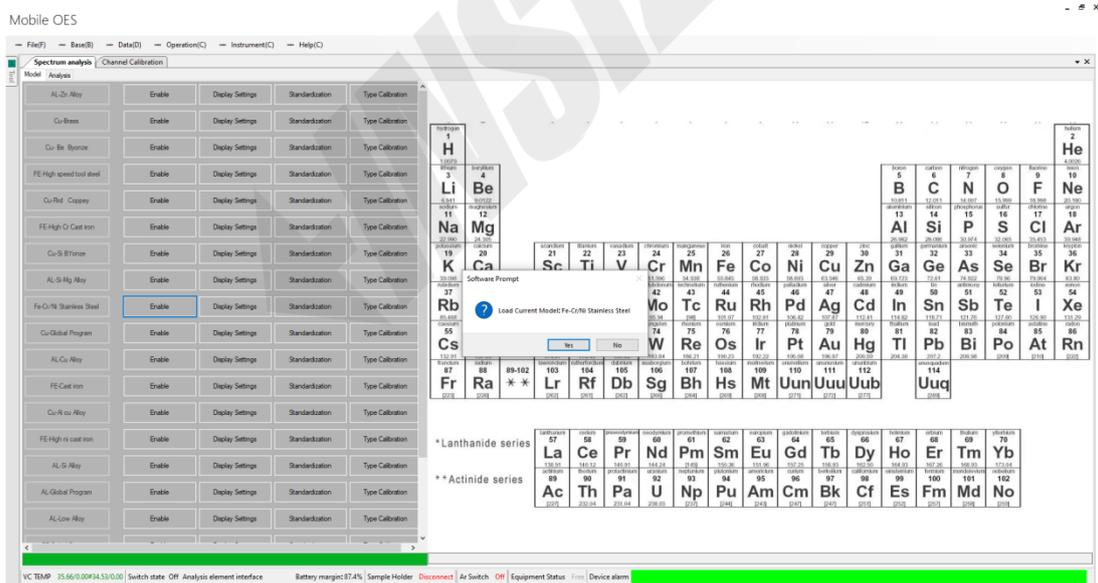

Figure 4-10 Working curve
Step 3 Select the required curve and click “Enable”, as shown in Figure 4-10: